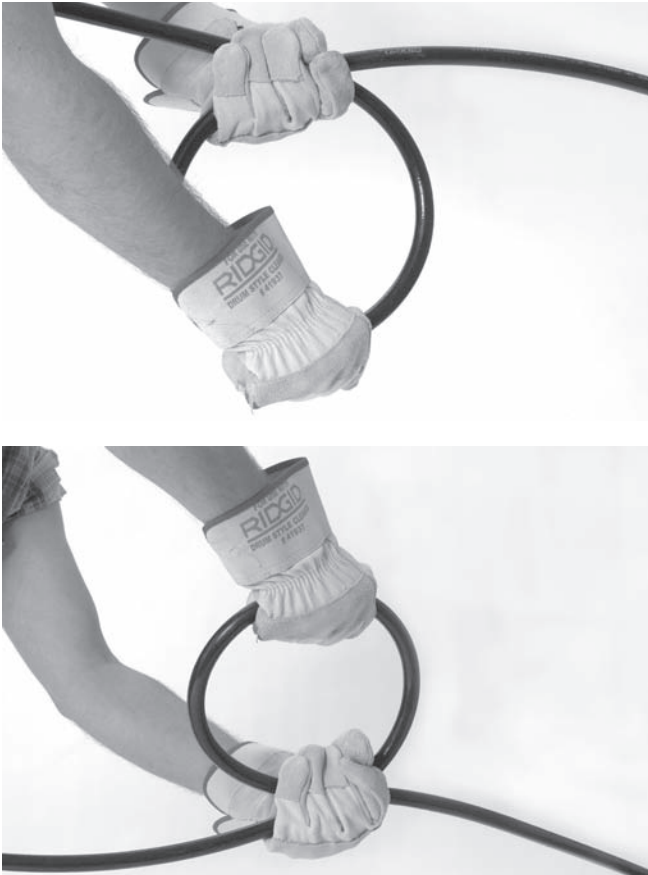

Figure 15 – Rotating the Hose
- Rotate the hose a quarter to half turn to orient the set of the hose to the direction change (If the hose is rotated, once through the obstruction, turn the hose back to help prevent kinks) See Figure 15.